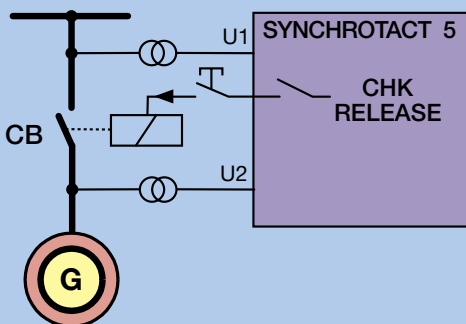

Fig. 3: Monitoring of manual paralleling (Synchrocheck)
3. Monitoring (Synchrocheck, sometimes referred to as synchronism-check) of automatic or manual synchronizing/paralleling of power lines, generators and voltage-free lines (dead bus), (see Fig. 3 below)